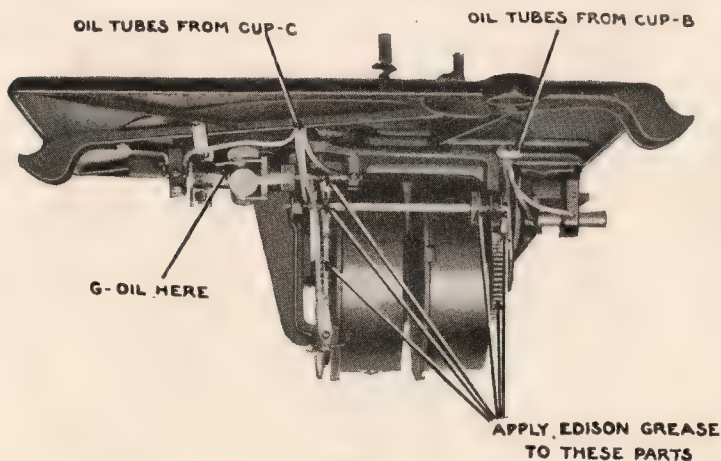

Fig. 7
G (Fig. 7) Governor sleeve (2 or 3 drops).
- (l) Apply Edison Grease freely to those parts indicated in Fig. 7.